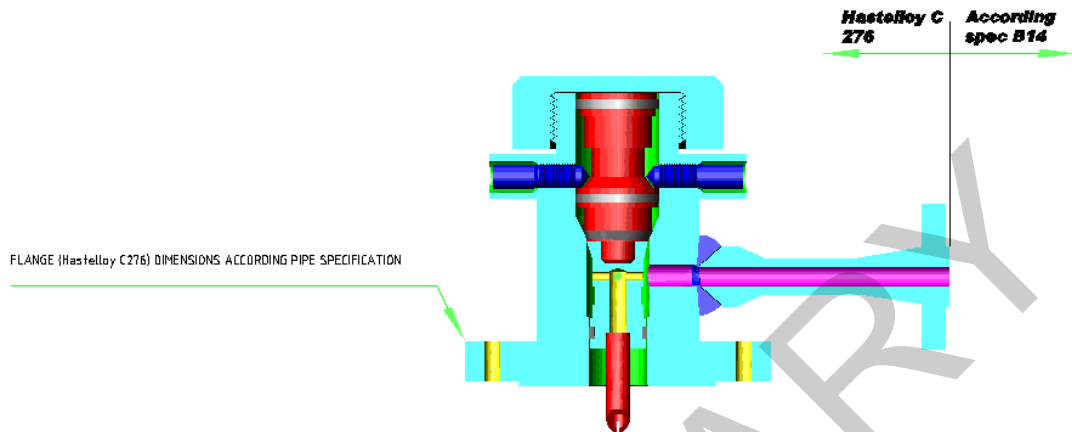

Figure 7 - Access connection for chemical injection of sodium hypochlorite in pipe systems type B14
4.3.7 All chemical injection connections of sodium hypochlorite shall be flanged at the injection points according to Figure 7.